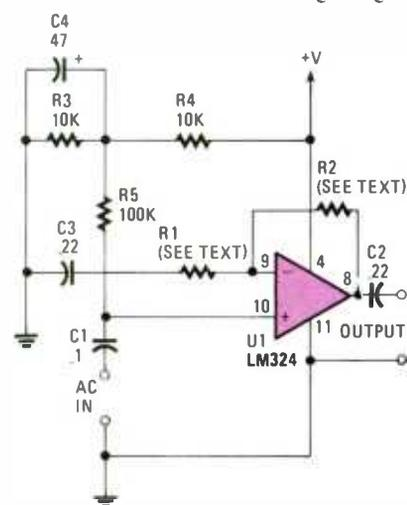

Fig. 4—The Buffer Amplifier differs from the Inverting Amplifier in that the Buffers output waveform is a carbon-copy of the input signal.
A noninverting Buffer-Amplifier circuit is shown in Fig. 4. The main difference between the previous circuit and this one is that the output remains in phase with the input signal. A number of active filters (such as the *XMI Electronic Crossover* featured in the November 1987 issue of HOE), oscillators, and other special function circuits require that in-phase signal relationship.
**Fig. 4—**Some modern sets use variable-capacitance diodes (varactors) instead of mechanical capacitors. A simple varactor-tuned LC circuit is shown in "A." The non-linearity of varactor-tuned circuits is partially overcome by connecting two varactor diodes back-to-back as shown in "B."